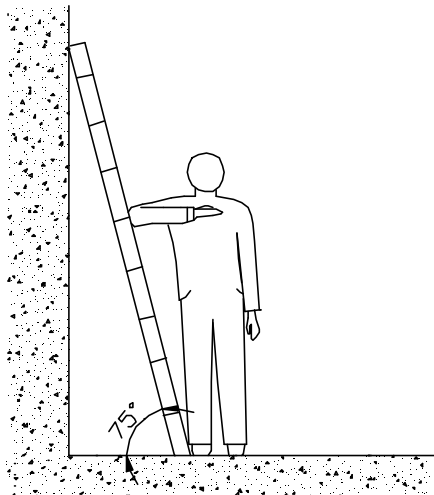

Figure 2 The angle at which the ladder should be leaned
- When operating under the conditions that the leaning distance of the ladder is over 5 measurement, and that of the erected ladder with two-foot is over 3 meters, and other dangerous environment, the ladder should be held by somebody or relevant safe measures should be effected. The A-shaped ladder should be completely stretched for using, as shown in Figure 2 below.